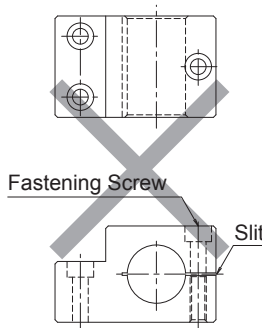
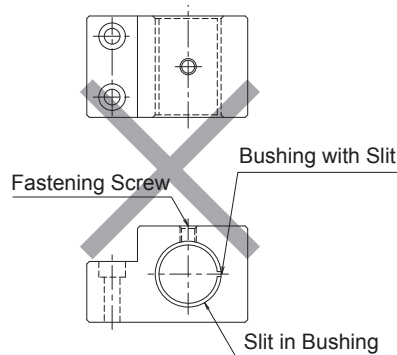
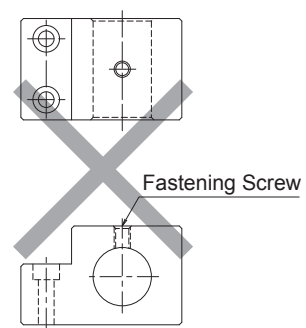

Fig. 6
Fig. 7
Fig. 8
- ① If the spindle is tightened and fixed with bolts and slits, the main body will be geometrically deformed and assembly accuracy will be affected, and troubles such as rotation failure and heat generation may result. Absolutely NEVER fix it with bolt and slits. (Fig.6, Fig.7, Fig.8)
- ② Since the spindle housing section has been assembled by stacking some components with high precision, some troubles may result by giving shock or causing damage when installing to the holder. Therefore, carefully perform installation work.